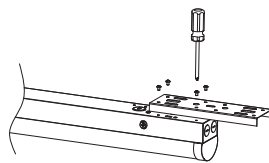

Figure 9
Step1. Use the screws in the accessory kit to lock the bracket onto one lamp (figure 9)